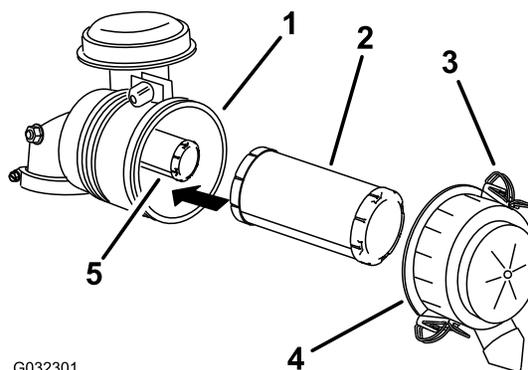

Figure 36
3. Release the latches on the air cleaner and pull the air-cleaner cover off the air-cleaner body (Figure 36).
5. Gently slide the primary filter out of the air-cleaner body (Figure 36).
2. If you are replacing the safety filter, carefully slide it into the filter body (Figure 36).
3. Carefully slide the primary filter over the safety filter (Figure 36).
4. Install the air-cleaner cover with the side indicated as **up** facing upward and secure the latches (Figure 36).